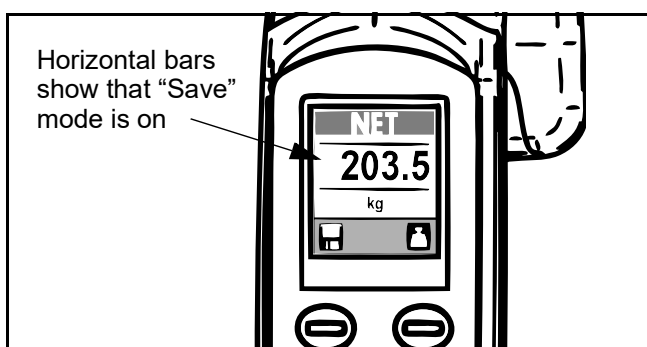

Fig. 65
- 5) Press the save button if the net weight needs to be kept in memory. Horizontal bars will appear above and below the digits on the screen to show that the save function is activated. "Save" will stay active until the save button is pressed again (see Fig. 65).